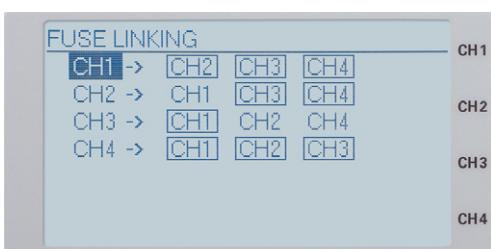

Fig. 5.2: Example Fuse Linking (R&S®HMP4040)
**Fig. 5.2 shows that exceeding the current limit at CH1 leads to automatically having CH2 and CH3 switched off whereas an over current in CH2 results in having CH3 deactivated.**